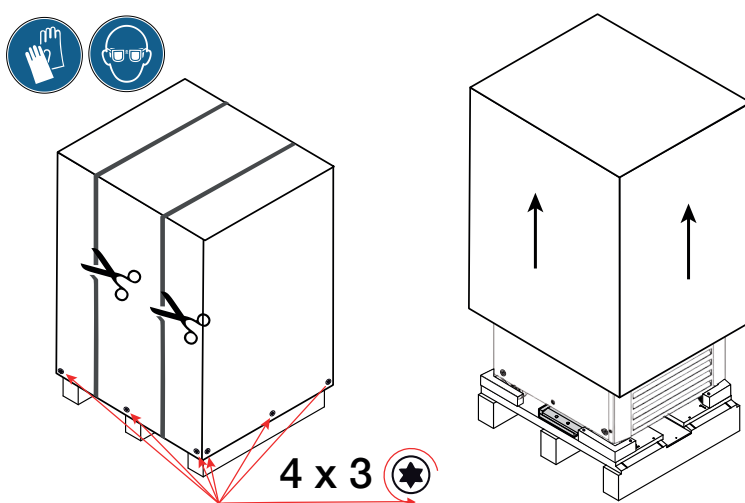

Figure 1-4: Removing the Outer Strapping and Packaging
2. Using a pair of scissors, cut and remove the outer strapping around the shipping package, as shown on the left side in Figure 1-4.
3. Using a screwdriver, remove the woodscrews (four times three pieces, as indicated in Figure 1-4 from the bottom of the cardboard box or wooden crate outer packaging.
4. Lift off the cardboard box or wooden crate, as shown on the right side in Figure 1-4.